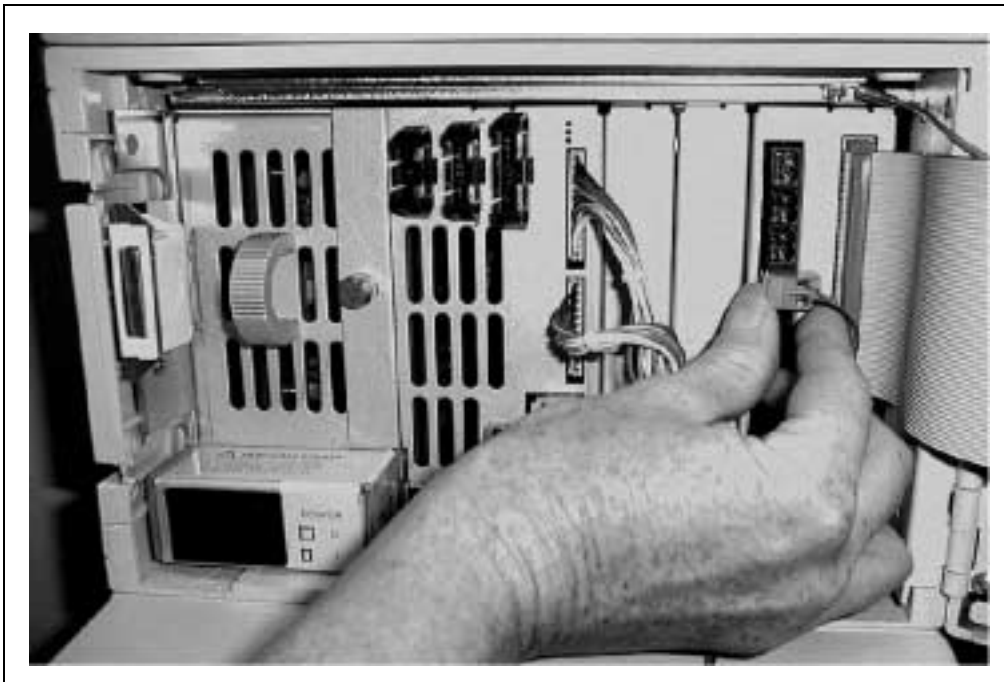

Figure 10. Connecting the Control Input Cable to the Pump TTL Connector
3. Connect the SC20 **CONTROL INPUT** cable to the TTL-2 OUT connector (see Figure 10). Be sure to route the cable through the slot in the side of the module; this will ensure that the door closes completely.